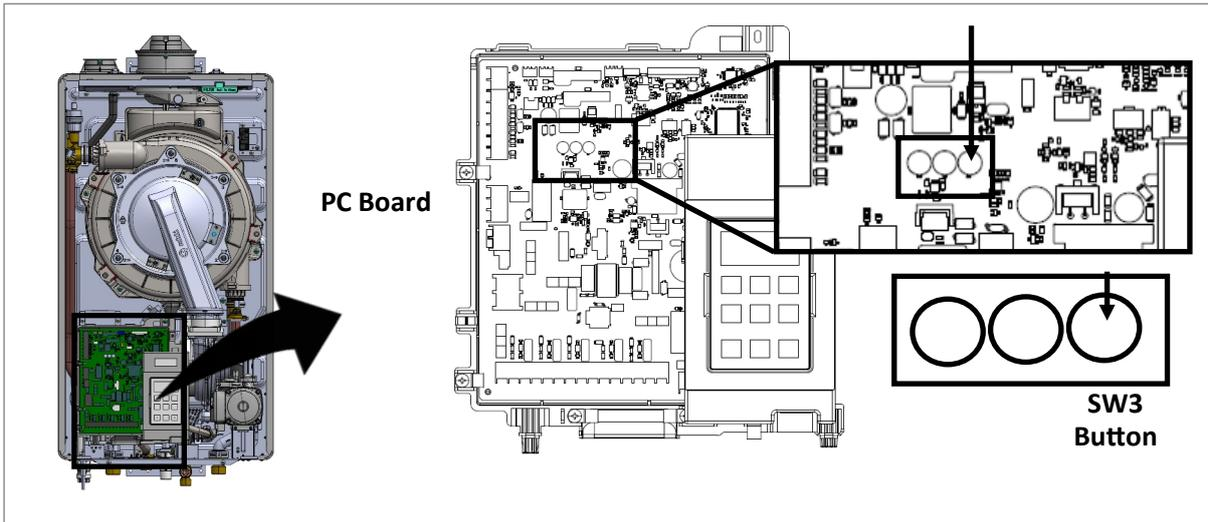
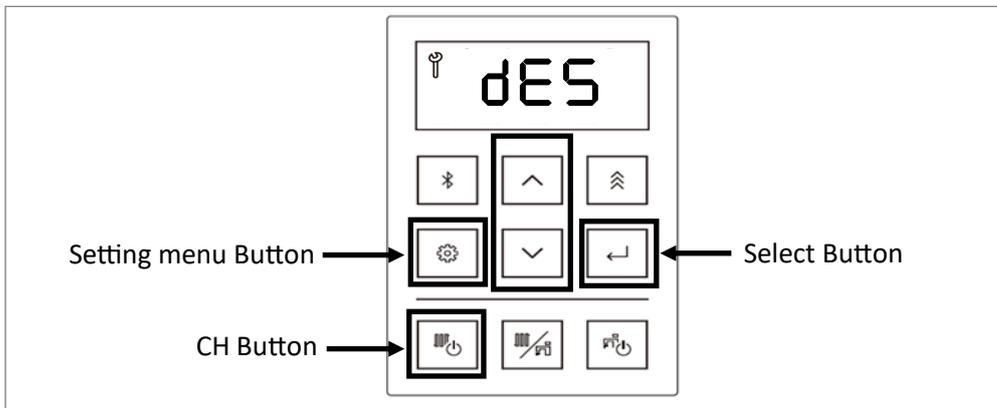

Figure 145
Figure 146
4. Press the SW3 button on the PC Board (Figure 145).
5. Press the up or down arrow button on the controller to select dES (descaling) (Figure 146).
6. Press the Select button to select the dES (Figure 146).
8. Press the Central Heating (CH) button to start the count down (Figure 146).
**Note:** If you need to cancel this procedure, you may press the Setting menu button on the controller (Figure 146), or press the SW3 button on the PC Board (Figure 145).